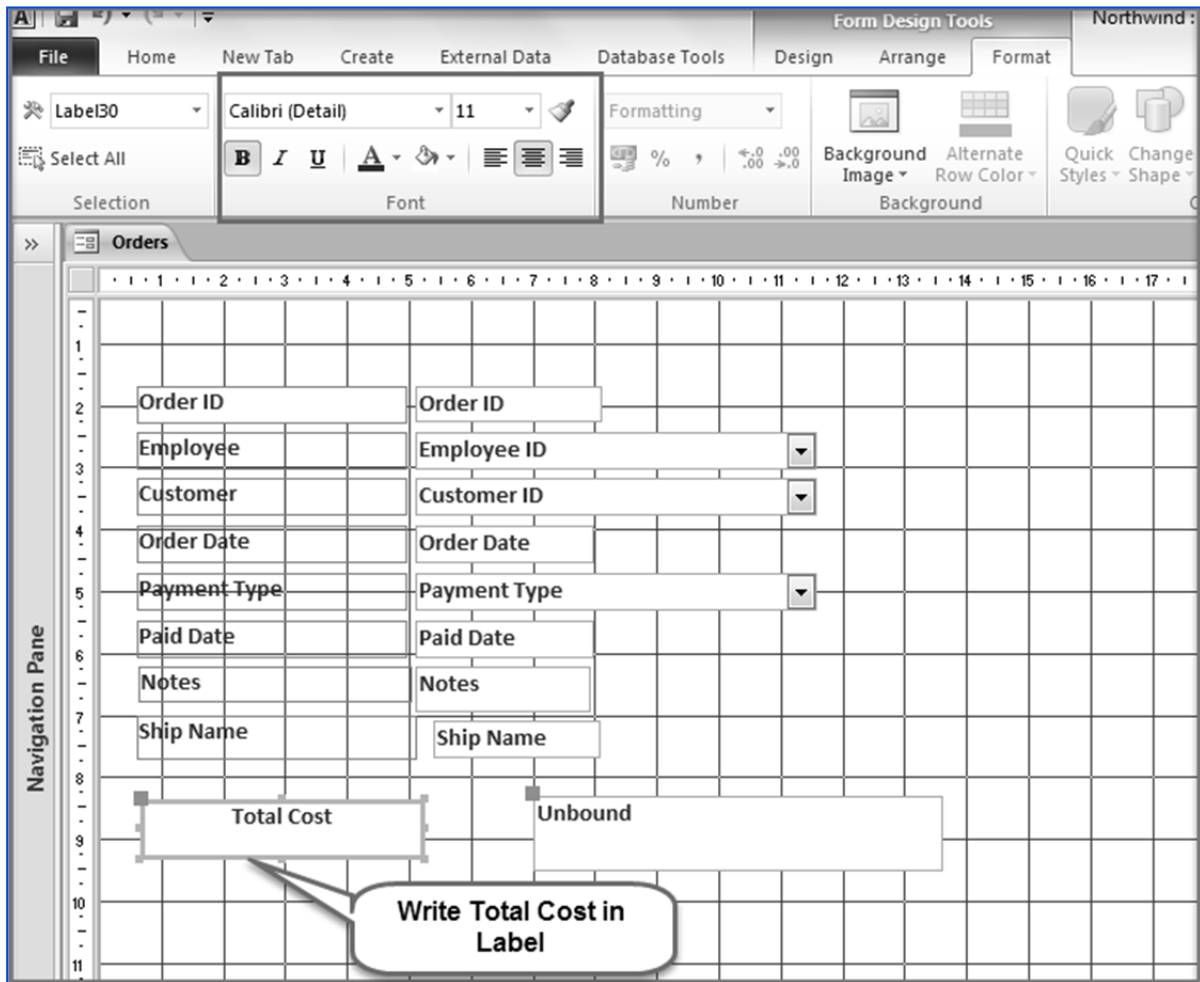

Fig. 4.2.41: Specify the text as Total Cost
2. Double-click the label and write the text *Total Cost*. Change the format of the label to match it with other controls. In this case, set the format as “Times New Roman, size 12, Bold”. The *Form Design* window appears, as shown in Fig. 4.2.41.